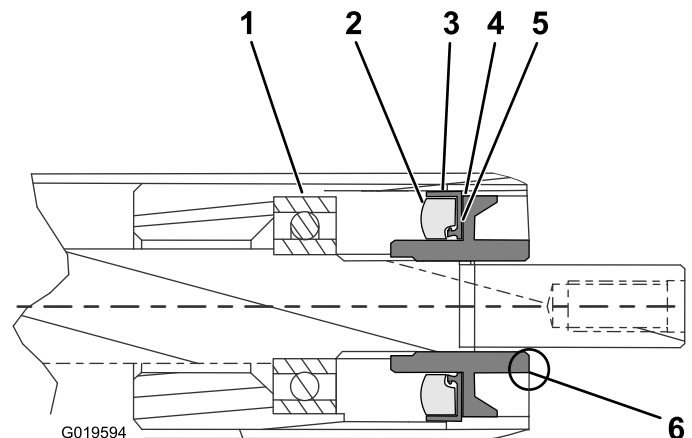

Figure 2
6. Apply a coating of #2 grease to the nut surface as shown in Figure 2.
7. Install the seal onto the nut and position it as shown in Figure 2.
9. Install a nut with a seal onto each end of the roller (Figure 2).
10. Tighten each nut until it is flush as shown in Figure 2.